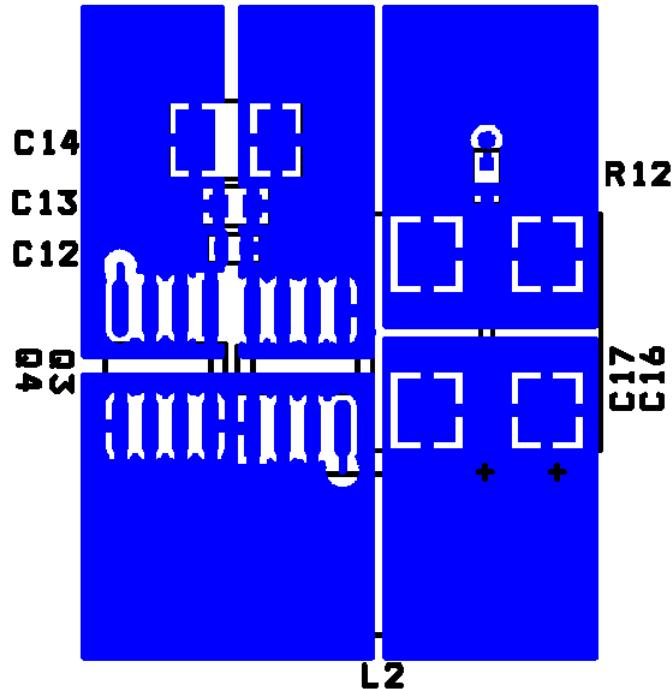

Figure 13: Power Component Placement and Copper Pours
The schematic has been redrawn to emphasize the input loop. The highest di/dts occur in the input loops and thus these should be kept as small as possible. The input capacitors should be placed with the highest frequency capacitors closest to the loop to reduce EMI. Use large copper pours to minimize losses and parasitics. Exactly the same philosophy applies to the OUT1 power section and input loop. Figure 13 below shows an example of the layout for the power section using these guidelines.
- 6) Notice in Figure 13 placement of 0Ω resistor at the bottom of the output capacitor to connect to VSSA1/2 for each output.